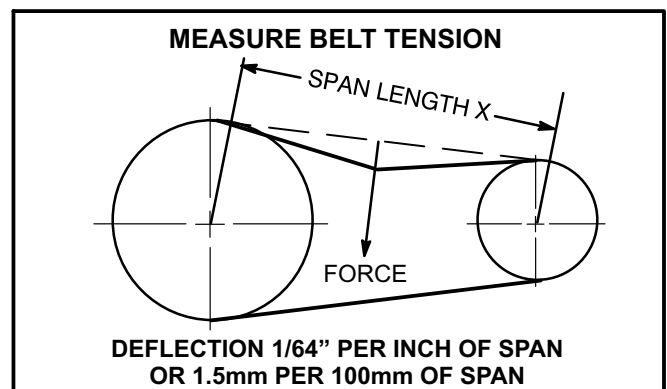

FIGURE 13
1. Measure span length X. See figure 13.
2. Apply perpendicular force to center of span (X) with enough pressure to deflect belt 1/64" for every inch of span length or 1.5mm per 100mm of span length.